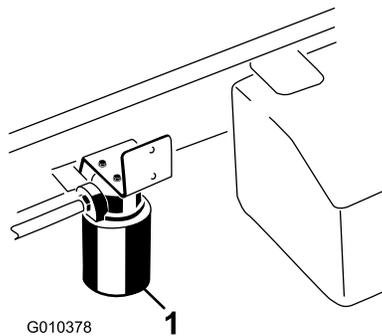

Figure 61
2. Clean the area around filter mounting area. Place a drain pan under the filter and remove the filter (Figure 61).